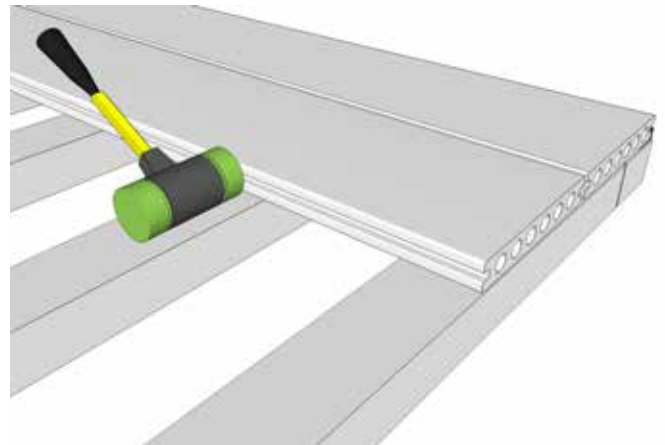

Figure 13
- 4 Use a rubber wood hammer to push the fixed fastener into the floor as shown in Figure 13: